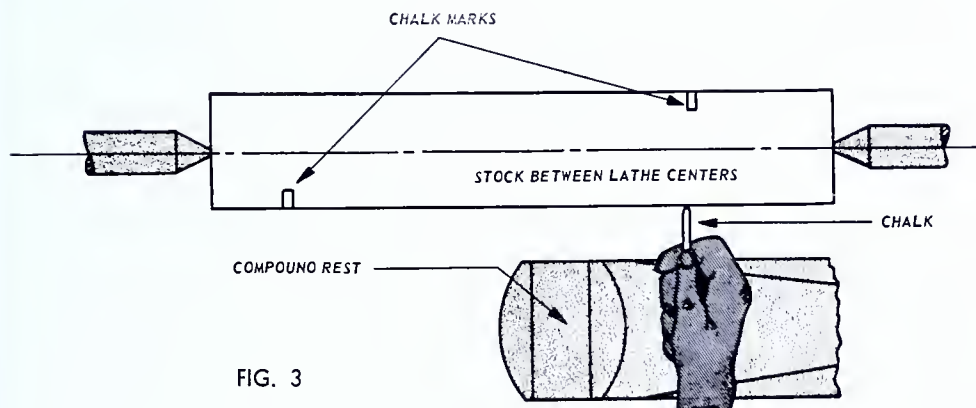

FIG. 3
7. Place work between lathe centers, spin the work, and test its accuracy by holding chalk near each end (Fig. 3 below). If the centers prove inaccurate, correct them by holding the center punch at an angle opposite the direction the center is to be moved. Repeat if necessary.